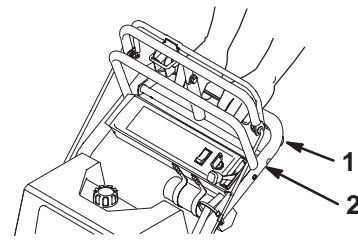

Figure 19
4. At the same time engage lower control bar and lift up on handle (Figures 19 and 20).